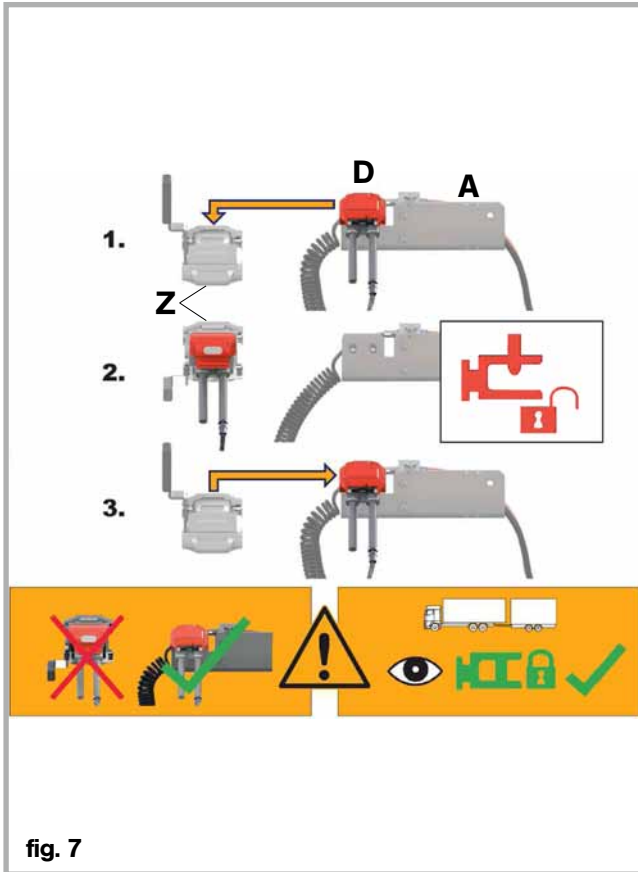

fig. 7
2. Operation (hitching and unhitching, fig. 7)